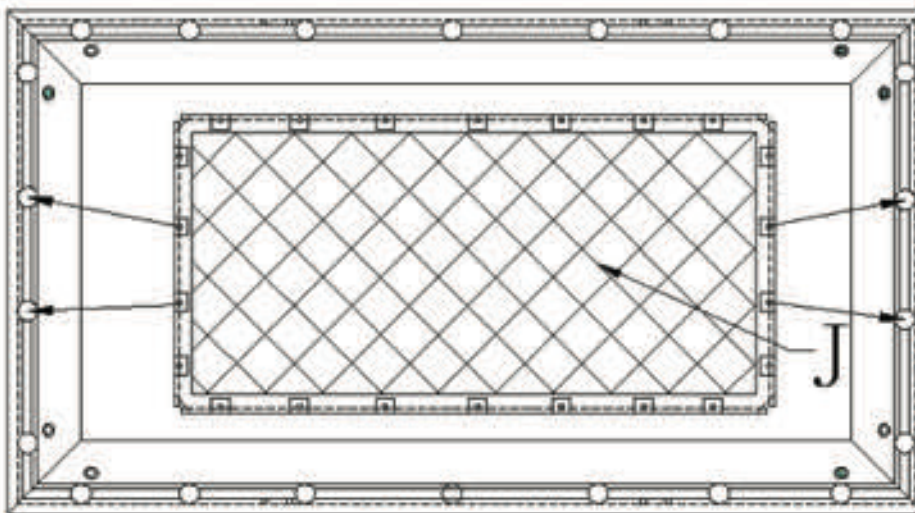

Fig. 6
1. Begin by installing the screen material on the center two holes on the **(D)** nails located on the left and right sides of the frame as shown on Fig. 6.